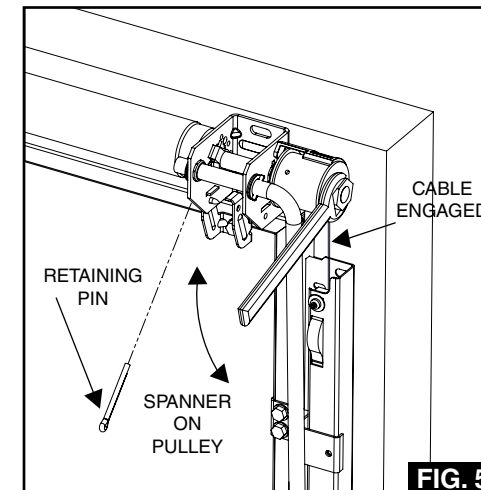

FIG. 5
3. Wearing Safety Glasses, grip the Right Hand Pulley with a 22mm A/F Spanner and, by turning upwards, align holes in spring anchor bush and spring shaft. Insert retaining pin (4mm dia x 50mm split pin or similar) fully into this hole as shown, then remove the Spanner (See Fig 5).
3. Wearing Safety Glasses and with door closed, insert the retaining pin into the spring assembly (See Fig 5).
Remove the retaining pin from the Spring Anchor Bush (at RH end) using a 22mm A/F spanner on the pulley, push upwards slightly and pull out the retaining pin using pliers (See Fig 5), you now have tension on the door.